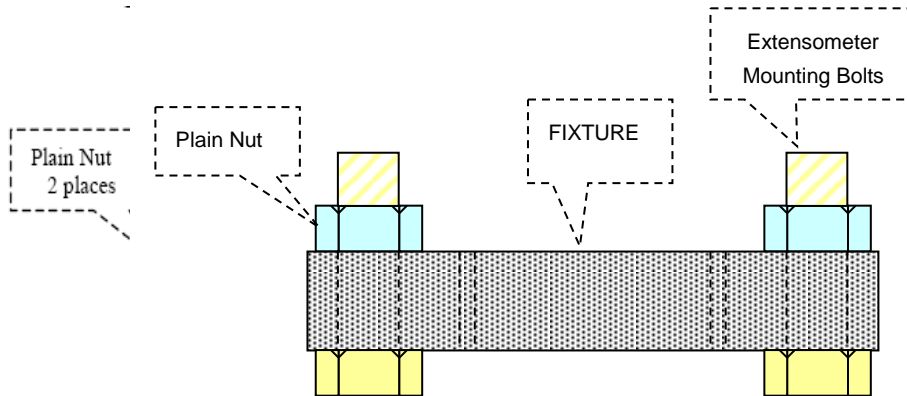

Fig 3.4 Mounting Bolts
- Refer to figure 3-4. Assemble the two special bolts (P/N 428838) supplied to the fixture (P/N 258912) with the two plain half-inch nuts and tighten with a spanner.